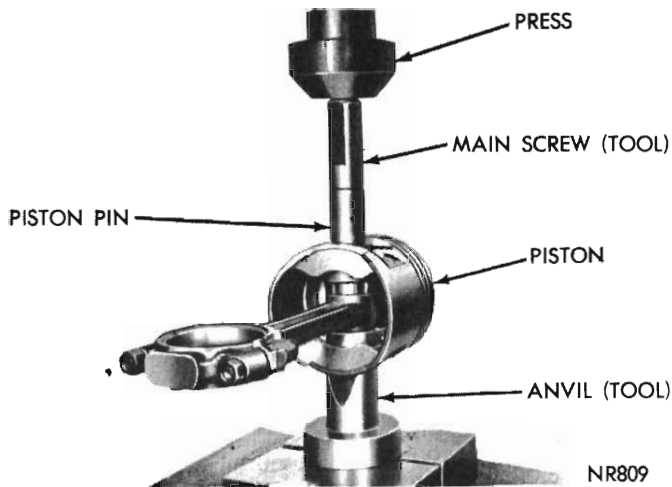
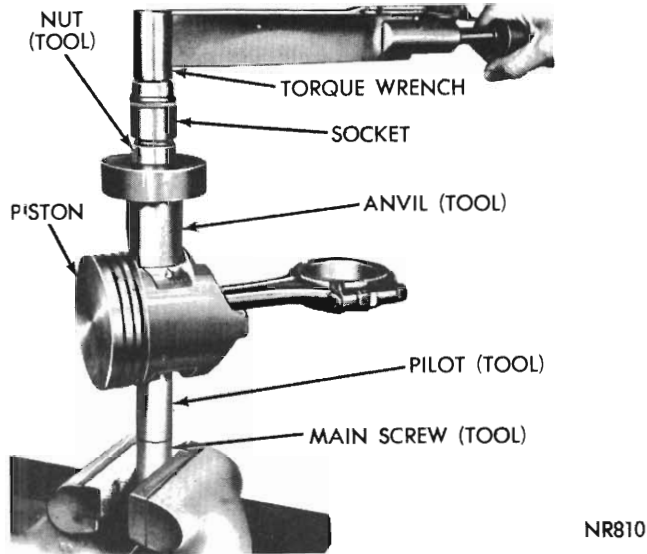

Fig. 32a - Installing piston pin
Fig. 33 - Testing fit of piston pin in connecting rod
(8) Install nut on puller screw to hold assembly together. Place assembly on a press (Fig. 32a).
(9) Press piston pin in until piston pin 'bottoms' on the pilot. This will position pin in connecting rod.
(10) Remove tool and arrange tool parts and piston assembly in same manner (Fig. 33).
(11) Place assembly in a vice (Fig. 33).
(12) Attach torque wrench to nut and tighten up to 15 lbs. ft. If the connecting rod moves downward on piston pin, reject this connecting rod and piston pin combination. Obtain a connecting rod with proper small end bore diameter and repeat the installation and tightening procedure.